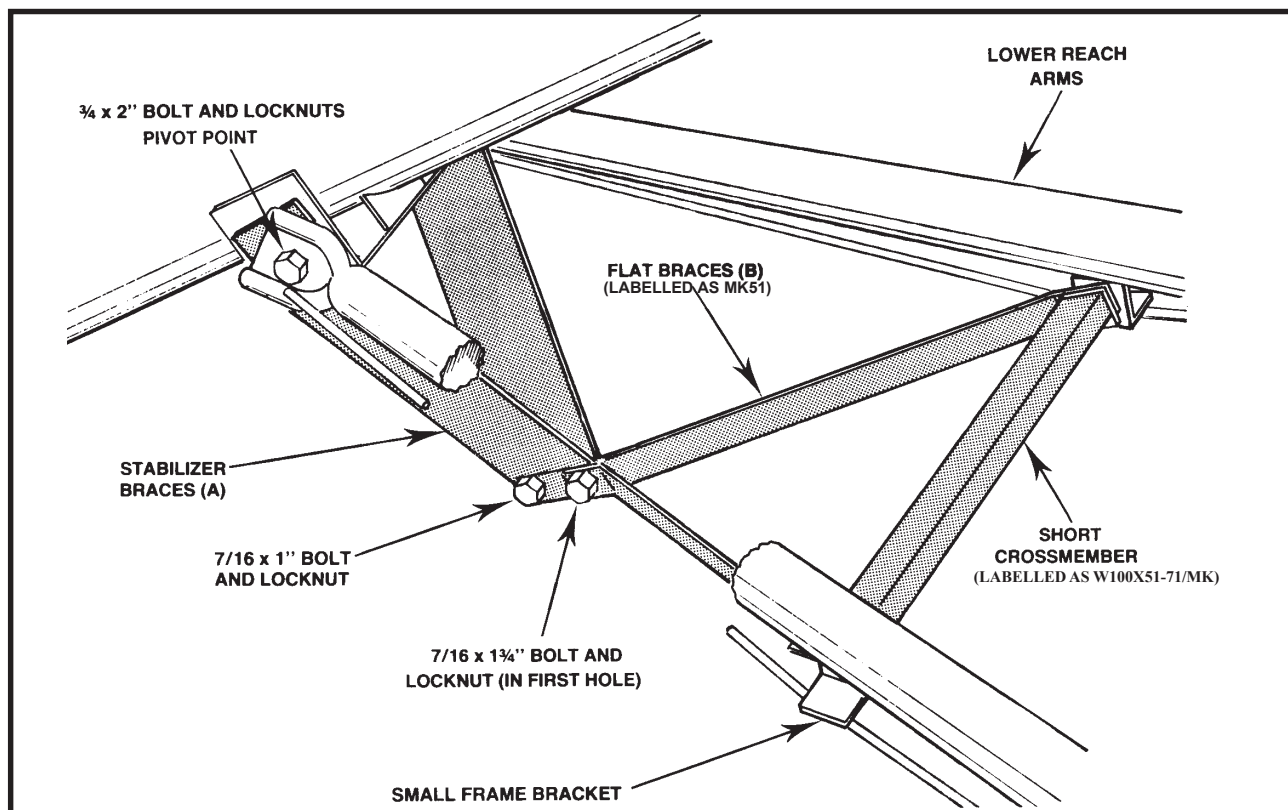

Figure No. 15
3. Attach short crossmember to small frame brackets loosely with two 1/2" x 1-1/2" bolts and locknuts, sandwiching the flatbraces (B) between short crossmember and small frame brackets on each side. Leave this way until step no. 8. (See Figure No. 15)
8. Place undercarriage beneath tube assembly, then position stabilizer braces (A) as shown in **Figure No. 15** and attach lower reach arms to bracket welded on lower end of auger tube with two $3/4"$ x $2"$ bolts and locknuts. **DO NOT OVERTIGHTEN**. Tighten snug only as these bolts act as pivot points.
9. Fasten flat braces (B) to first set of holes (furthest from intake) on stabilizer braces (A) with one